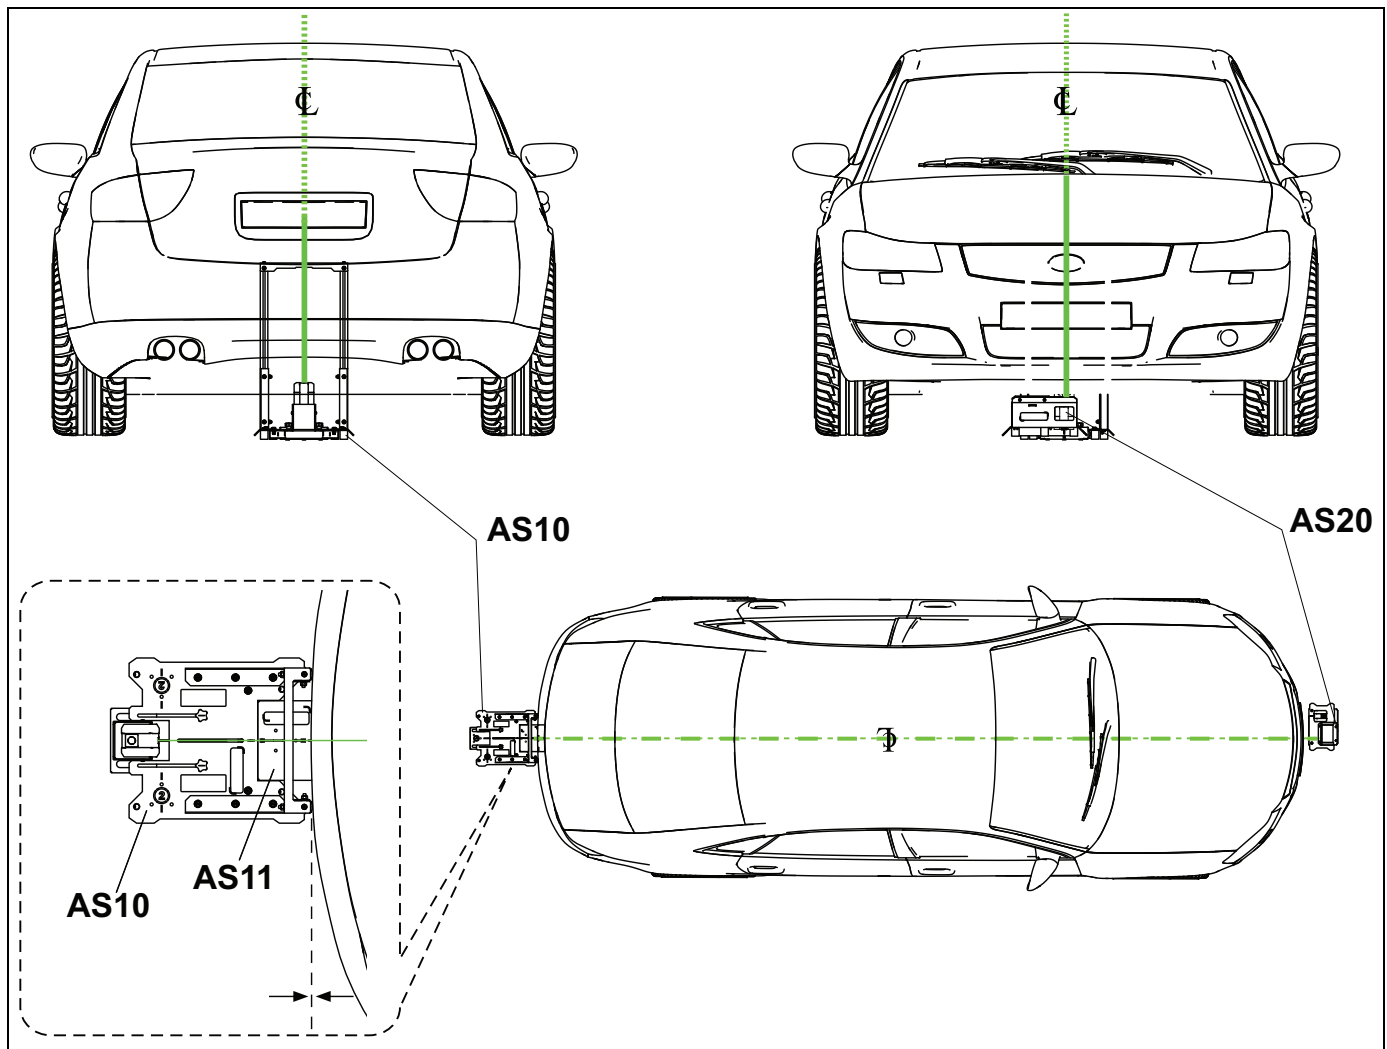

Figure 5-2
1. Before starting this procedure read Pre-Checks, on page 3–1, and make any needed corrections as necessary. Use Figure 5-2 as reference for the following steps.